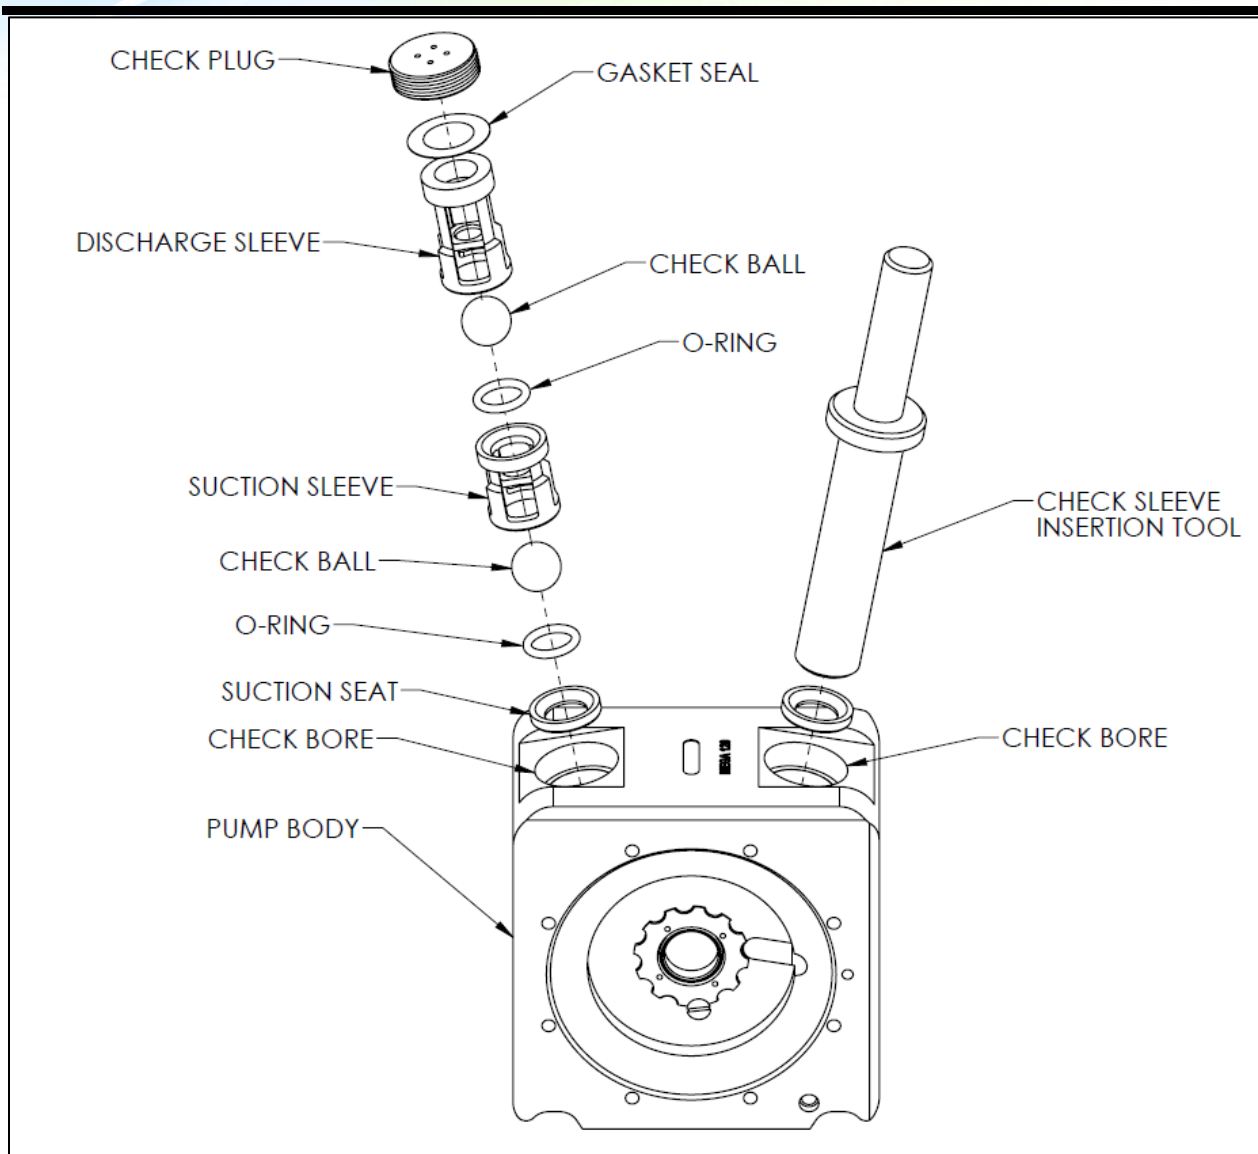

Figure 4-3
- See Figure 4-3 for the proper order of check assembly installation.